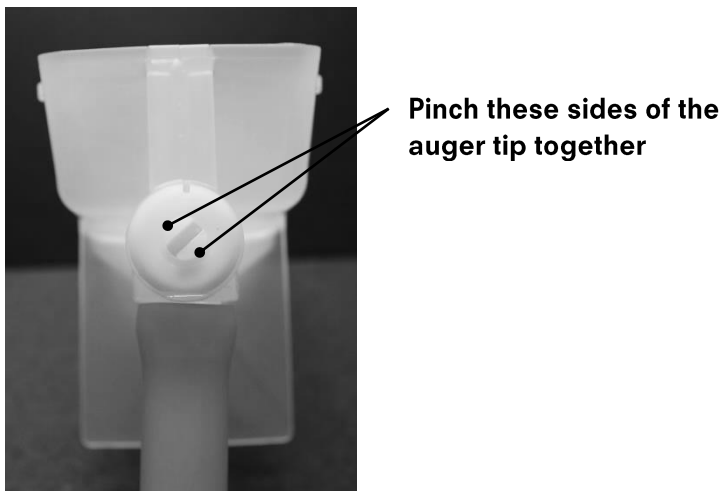

Figure 13: Remove the auger (option 1)
- a. Pinch the two sides of the auger tip together and push into the front bushing (Figure 13).